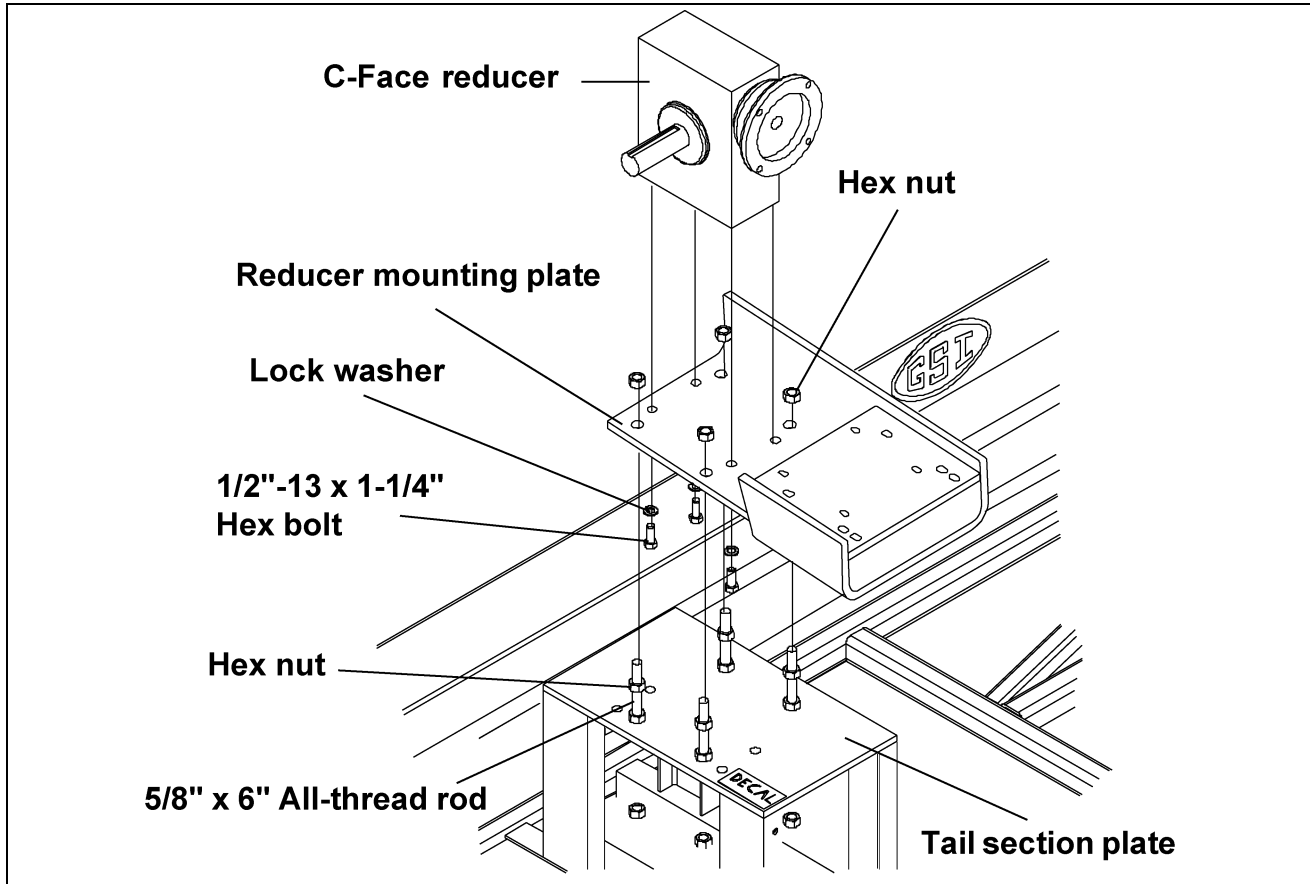

Figure 5M
- A. Attach the C-Face reducer to the mounting plate using four (4) 1/2"-13 x 1-1/4" hex bolts and lock washers. (See Figure 5M.)
- B. Fasten the reducer mounting plate to the tail section plate using four (4) 5/8"-11 x 6" all-thread rods and sixteen (16) hex nuts. Adjust the mounting plate as close as possible to the tail section plate.